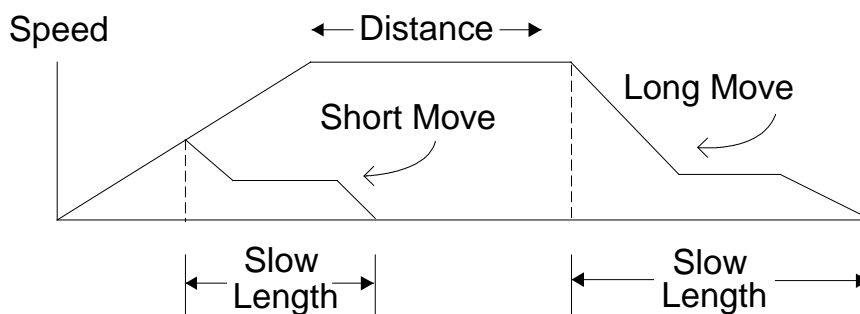

Figure 5: Speed Profile with Adaptive Stopping
- Use the Up and Down soft keys (white keys just below the display, see Figure 5) to navigate from item to item.